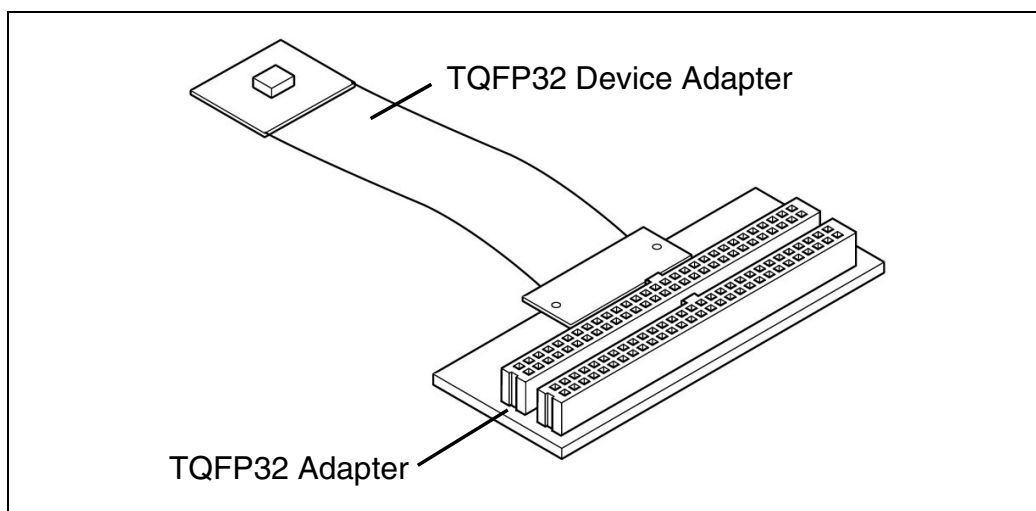

Figure 12: Flex PCB mounted on TEB adapter
- 2 With the emulator and the application board powered off, connect the TQFP32 device adapter (ref.: DB522) to the TQFP32 adapter (ref.: DB615), as shown in Figure 12.